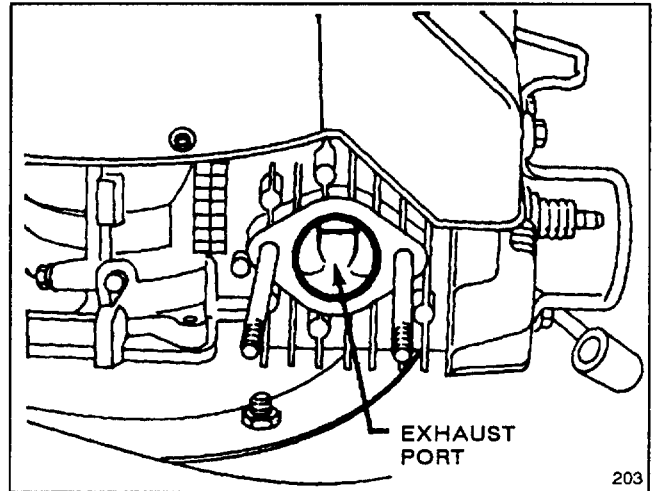

Figure 14
3. Pull wire off spark plug. Slowly pull recoil starter so piston covers exhaust port (Fig. 14).
4. Clean carbon from exhaust port (Fig. 14) with flat, hard wood scraper.